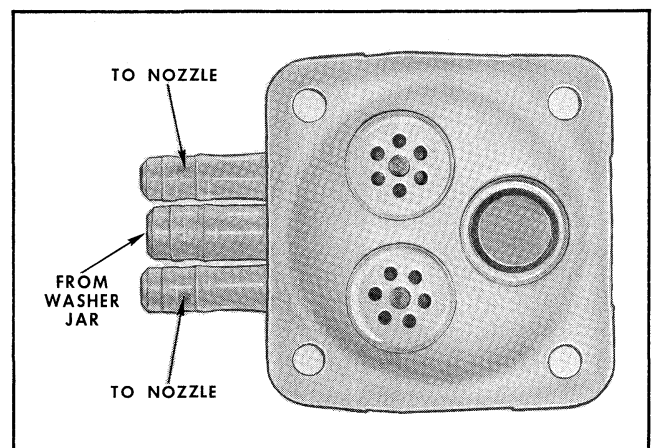

Fig. 11-112 Valve Assembly
VALVE ASSEMBLY (Fig. 11-112)
Remove the four screws that secure the nozzle assembly to the bellows housing (Fig. 11-112).
1. Remove valve assembly (Fig. 11-112).